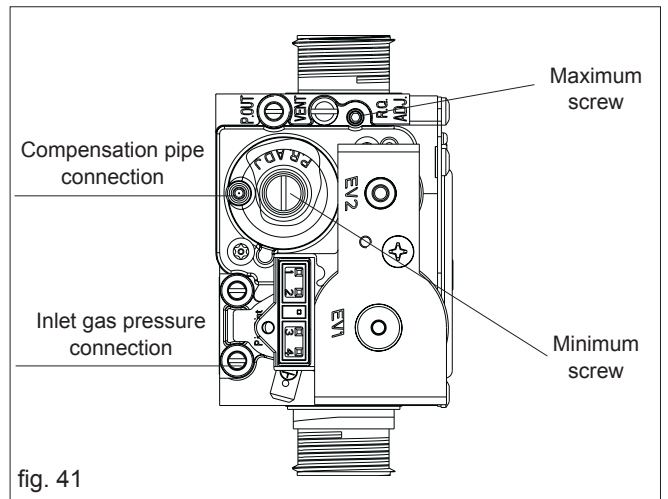

fig. 41
- using a 2.5mm Allen key, very slowly turn the maximum adjustment screw (see fig. 41) – clockwise to decrease, counter clockwise to increase – until the correct value is displayed on the CO₂ analyser (allow time for the analyser to stabilise).
- locate the minimum adjustment screw (fig. 41), using a suitable screwdriver remove the protection plug
- using a 4mm Allen key, very slowly turn the minimum adjustment screw (see fig. 41) - clockwise to increase, counter clockwise to decrease - until the correct value is displayed on the CO₂ analyser (allow time for the analyser to stabilise).